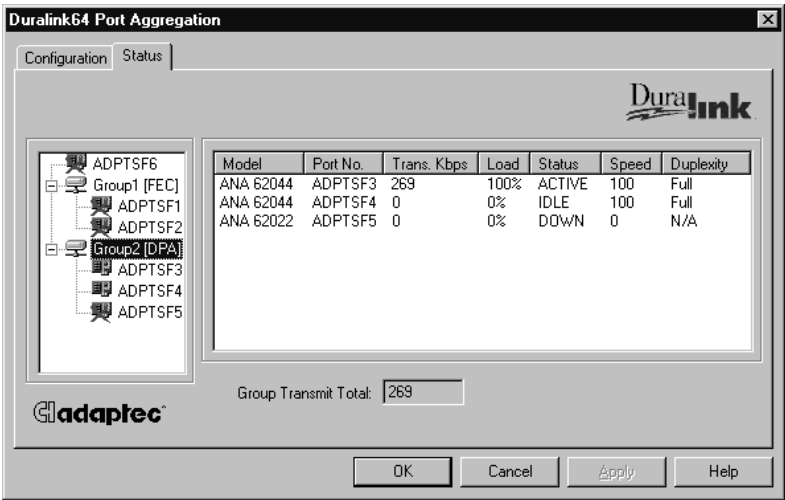

Figure 9-16. Status Tab
- 5 Click the **Status** tab to view the group and independent port information, such as shown in Figure 9-16.